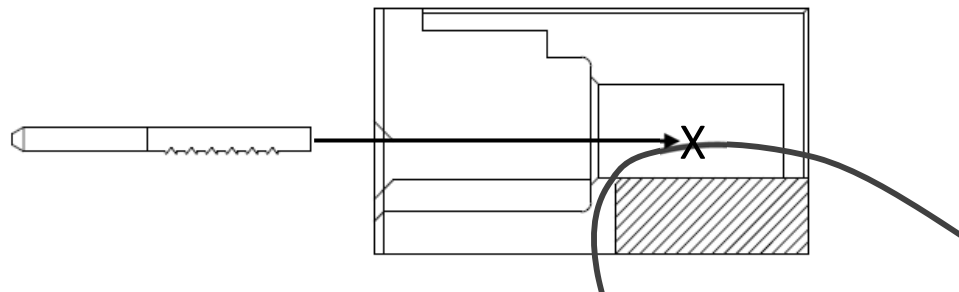

Figure 3
- (1) Pre-design consultation with TE Engineering is necessary to be sure the position of the tie-off post for automatic terminal insertion machines.
- (2) Magnet wire must be flat on the bottom of the cavity slot to avoid any damages by serrated burrs of post contact during terminal insertion process as indicated in Figure 3.